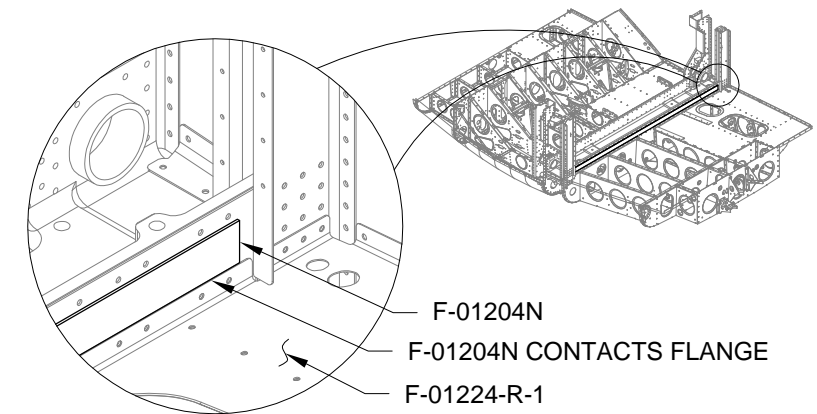

FIGURE 2: ATTACHING F-01204N
Step 8: Clean the region of the aft center section bulkhead in which the F-01204N Fuel Tank Pad will be placed. See Figure 2 and Page 21iS/U-01.